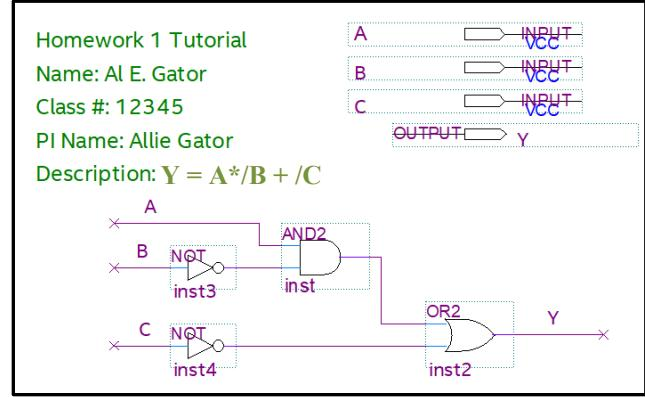

Figure 4: BDF with inputs and outputs
- In the same manner that you placed a gate onto the BDF, add three input pins from the “Symbol” libraries. Input pins can be found under “primitives | pin | input” (or just type **input** just as you typed **not** previously in the “Name:” box). I suggest placing these inputs together, above your logic diagram and just to the right of your name as shown in Figure 4.
- In the same manner and in the same library that you found the input pins, add an output pin from the “Symbol” library. I put this output pin under and to the right of the input pins. Change the pin name to ‘Y’ on the output port, as shown in Figure 4.
- The “A” label will connect the input labeled “A” to this wire. Similar connections are made by the labels on the other inputs and output. The BDF should look similar to Figure 4.